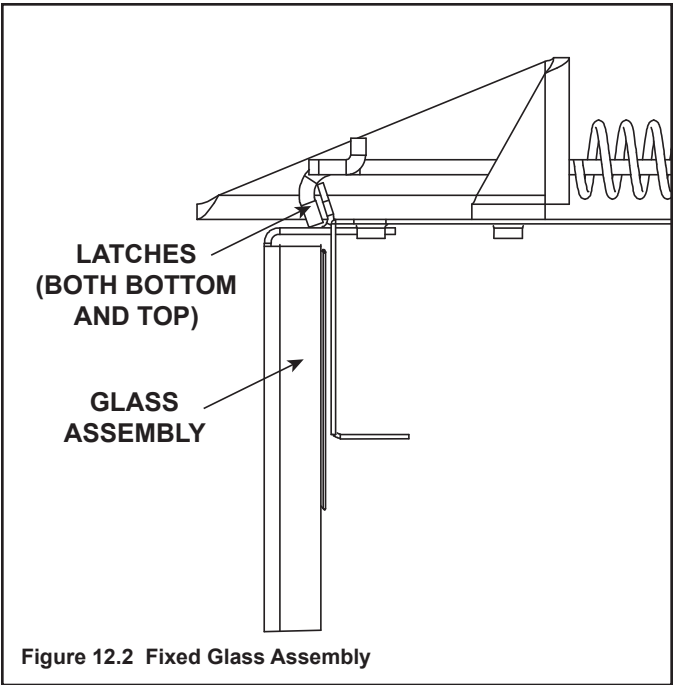

Figure 12.2 Fixed Glass Assembly
- The glass assembly fastens to the fireplace in four places. The fastening mechanisms are spring-loaded glass latches. An example of the glass latch is shown in Figure 12.2.